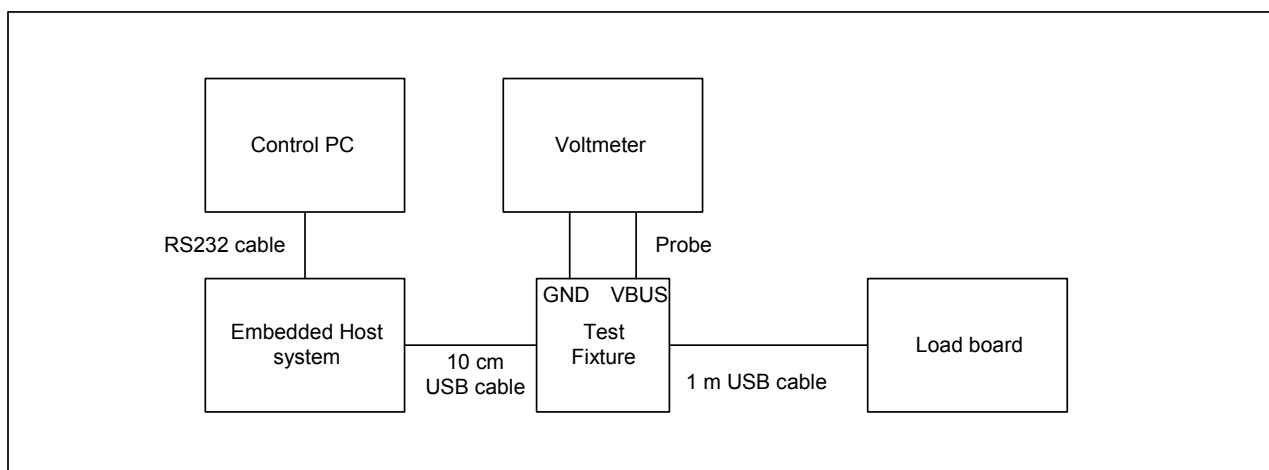

Figure 5-2 Drop testing configuration
This measures the voltage between VBUS and GND when a steady load is applied to the VBUS supplied by the system. Figure 5-2 shows the testing configuration.
1. Connect as shown in Figure 5-2.